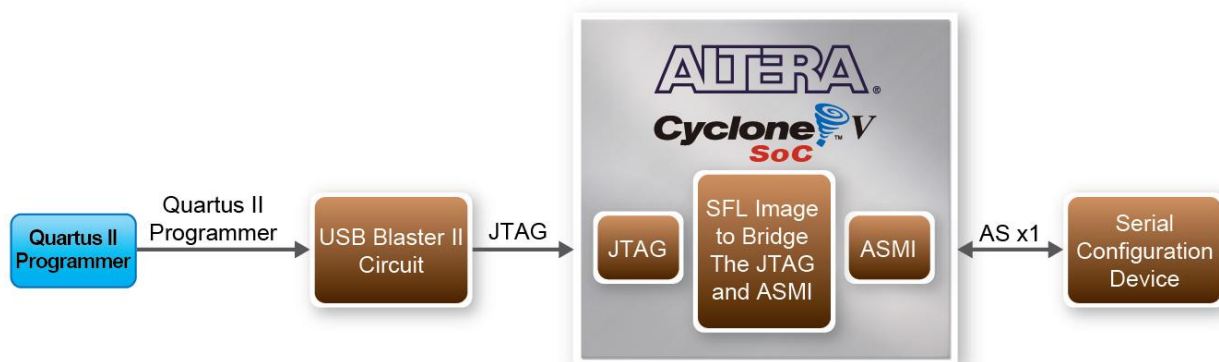

Figure 3-9 Programming a serial configuration device with SFL solution
Users need to use Serial Flash Loader (SFL) to program the serial configuration device via JTAG interface. The FPGA-based SFL is a soft intellectual property (IP) core within the FPGA that bridge the JTAG and Flash interfaces. The SFL Megafunction is available in Quartus II. **Figure 3-9** shows the programming method when adopting SFL solution.